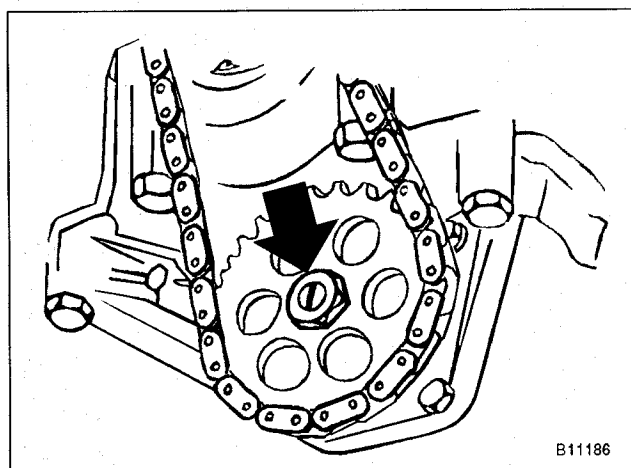

Fig. 9. Oil pump sprocket mounting nut (left-hand thread) on 6-cylinder engine (arrow).
19. Remove oil pump sprocket mounting nut. See Fig. 9. Lift sprocket off together with drive chain.